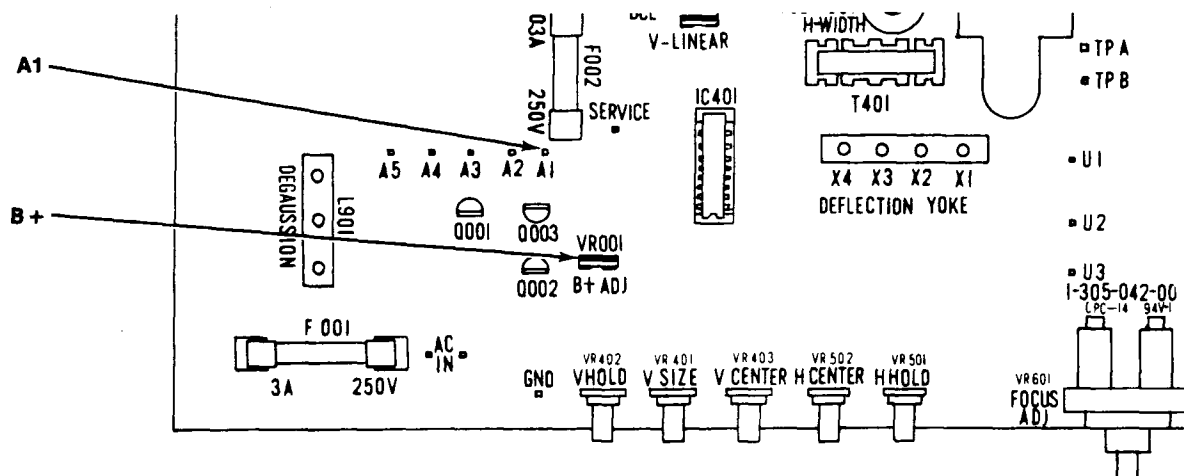

Figure 8 Locations of Video B + Adjustment VR001 and Test Point A1
4. Connect the plus lead of the voltmeter to test point A1, which is shown in Figure 8.
6. Adjust VR001 on the Main PCB, shown in Figure 8, for a voltmeter reading of +115 volts.